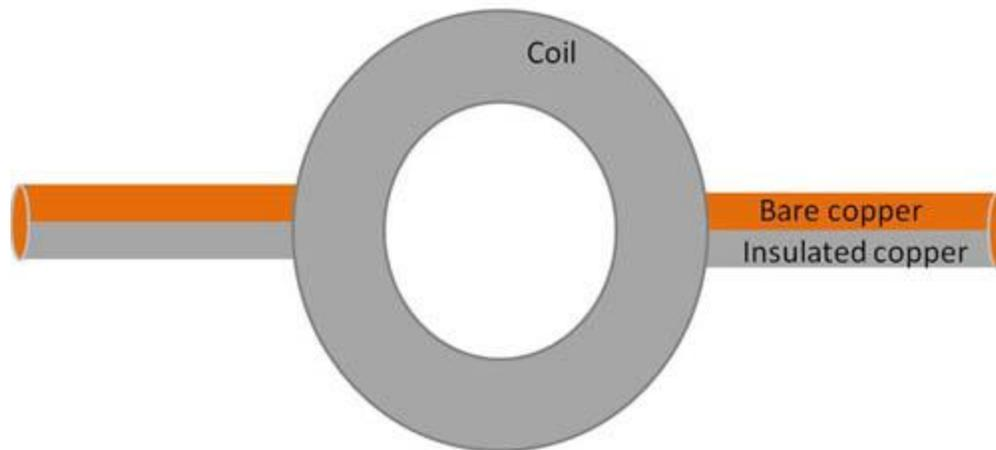

Figure 4. This drawing shows the parts of the axles to strip of insulating material.
4. Using a sharp knife, strip off the **insulating** material on *half* of the axles, as shown in Figure 4. The easiest way to do this is to hold the coil between your thumb and forefinger so it is standing upright (the coil is perpendicular to the floor) and then hold the coil off to one side of a table. (If you want to see an image of how to hold the coil, view the sixth figure in these assembly instructions for a Beakman motor.) Lay the axle on a piece of cardboard (to protect the table underneath) and scrape off the top half of the magnet wire with a knife. Be careful not to press too hard when you are scraping or you might cut the wire or cut into the table. Flip the coil around and then scrape the other axle. Scraping off half of the insulating material is done to provide a period of time when current can flow through the coil and create a temporary magnetic field, and a period of time when it cannot. When the bare copper of the axle is rotated down, bare copper will be touching the axle supports, and current will flow to the coil, creating a temporary magnetic field. When the bare copper is rotated up, insulated copper will be touching the axle supports, and no current will flow to the coil.